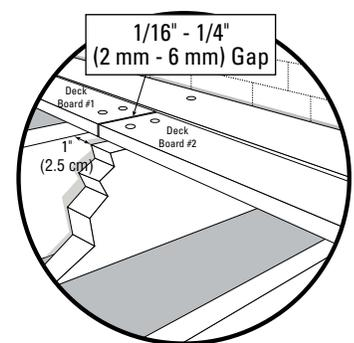

Figure 5
- Between board ends: at temperatures up to 30°F (-1°C) space 1/4" (6 mm); at 50°F (10°C) space 3/16" (5 mm); at 70°F (21°C) space 1/8" (3 mm); at 90°F (32°C) space 1/16" (2 mm); at temps over 110°F (43°C) space 1/32" (1 mm) (Figure 5)